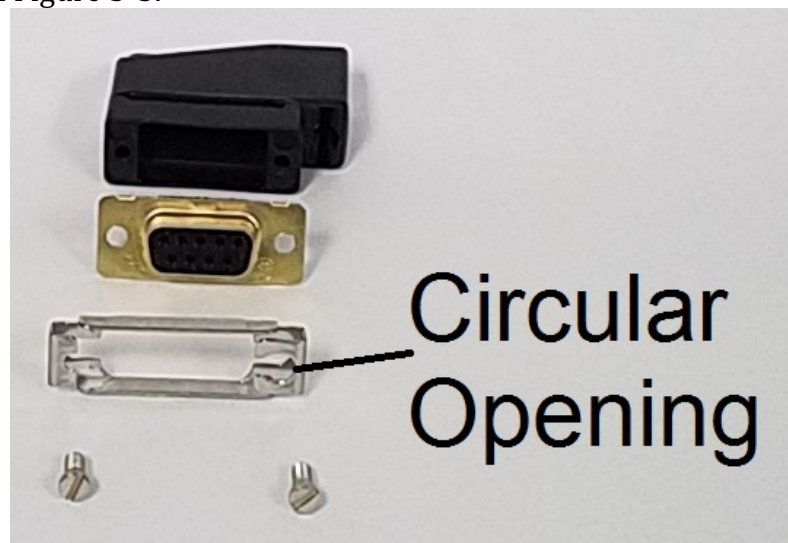

Figure 3-5
5.2. The pitch servo connector backshell and slidlock should be assembled as shown in Figure 3-5.